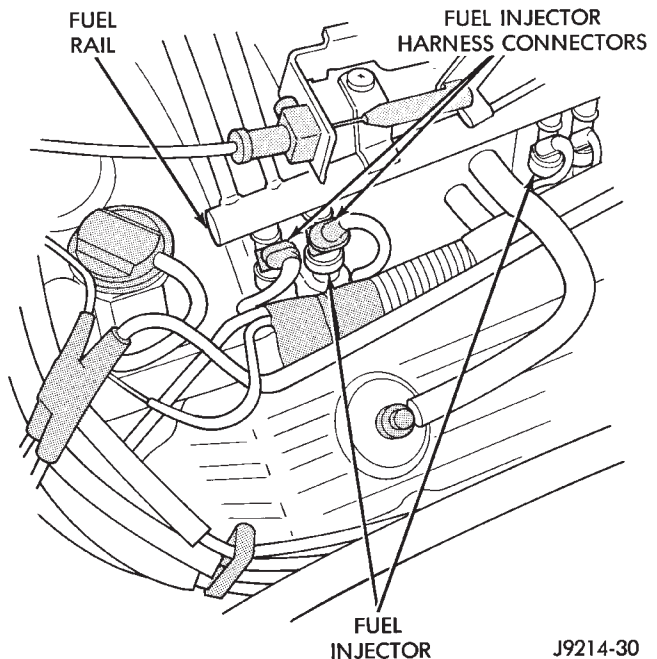

Fig. 31 Fuel Injector Connectors—Typical
- (6) Disconnect electrical connectors at all fuel injectors (Fig. 31). The factory fuel injection wiring harness is numerically tagged (INJ 1, INJ 2, etc.) for injector position identification.
- (7) 3.9L (V-6) engine only: Disconnect electrical connector at intake manifold air temperature sensor. Do not remove sensor.
- (8) Disconnect fuel tube (line) at side of fuel rail. Refer to Quick-Connect Fittings for procedures.
- (9) Remove remaining fuel rail mounting bolts.
- (10) Clean dirt/debris from each fuel injector at intake manifold.
- (11) Gently rock and pull **left** fuel rail until fuel injectors just start to clear intake manifold. Gently rock and pull **right** fuel rail until fuel injectors just